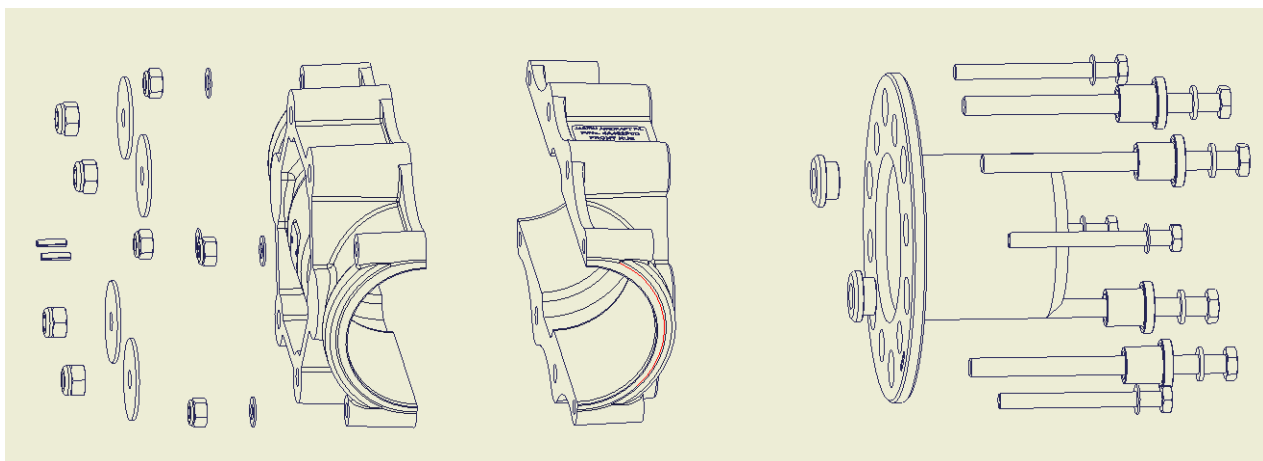

Figure 8 – Propeller Hub Assembly (Spinner and blades not shown)
- Ensure that Propeller drive bushes – 6 off, are in placed in the Crankshaft Propeller Flange (note that two are special, short parts and face “backwards” compared to the others – see Figure 8). Fit the rear spinner backing plate to the flange.